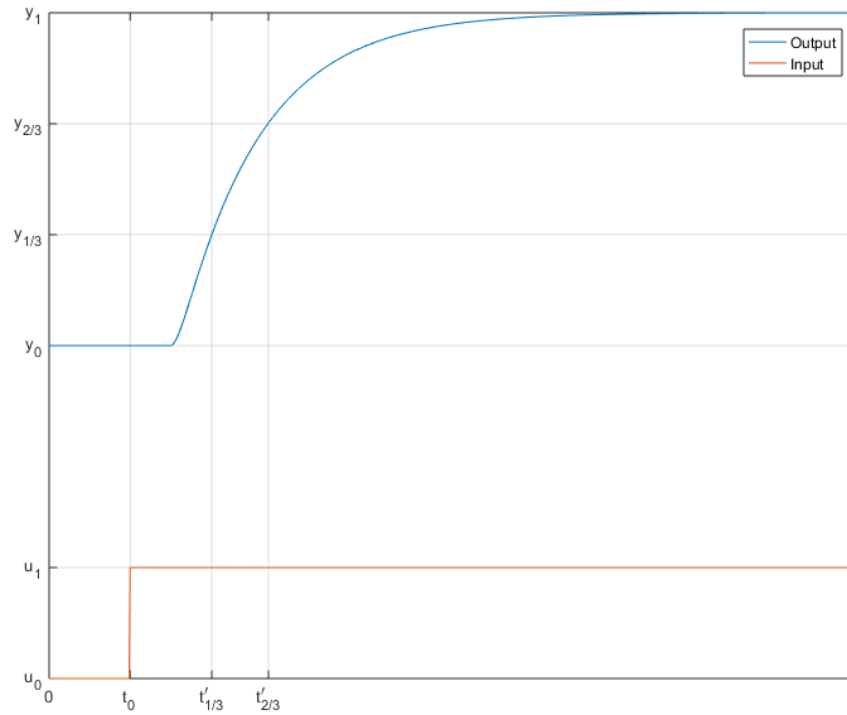

Figure 4: A step response obtain as a result of bump test
- (a) Consider the step response of a bump test shown in Fig. 4. One way that you can obtain the FOPDT parameters would be to draw a tangent line at the inflection point (that is, the point where the step response has the highest slope), and intersect it with the y_0 line to find θ_p . Then, find the time of $0.632\Delta y = (1 - e^{-1})\Delta y$, and, from the results of the two, find T_p . Interested readers are encouraged to have a look at **this video** giving the explanations of these steps and **here** to see how to achieve this programmatically. However, this would either require you to draw the tangent line rudimentarily or be prone to errors due to spikes caused by noise. Instead, finding a mathematical expression for the time constant and the dead time may be more beneficial. To achieve this, let $\Delta u = u_1 - u_0$ and $\Delta y = y_1 - y_0$. Also let $y_{1/3} = y_0 + \Delta y/3$ and $y_{2/3} = y_0 + 2\Delta y/3$. You are also given that the response of $y(t)$ is of the following form, where t_0 is the input step time and $u'(\cdot)$ is the unit step function. Rearrange this equation to find an expression for t where $t > t_0 + \theta_p$, and then find $t_{1/3}$ & $t_{2/3}$ (corresponding to $y_{1/3}$ & $y_{2/3}$, respectively). Then, rearrange these results to find T_p and θ_p . Using these results and shifting the plots as $t_0 = 0$, show that the formulae given for them in your lectures are valid.